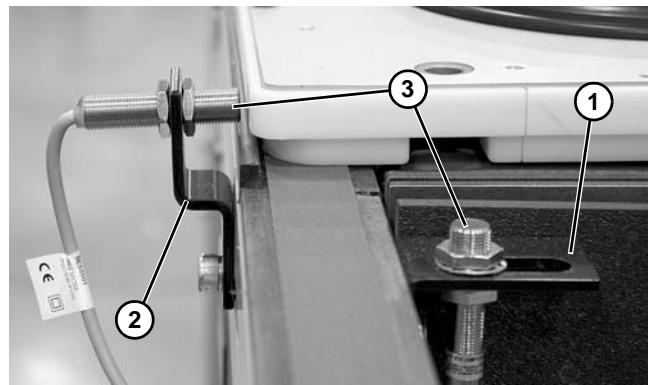

Figure 68
Optional bottom mount (**Figure 68, item 1**) or side mount (**Figure 68, item 2**) sensor brackets can be used to mount a 12 mm barrel proximity sensor (**Figure 68, item 3**). See "Optional Sensors" on page 8.